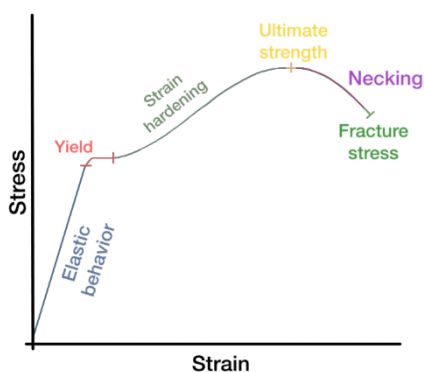

Figure 2 – Axial stress-Strain curve for a material.
12. Figure 2 shows the axial Stress-Strain curve for a material. Select the correct option. **(1p)**